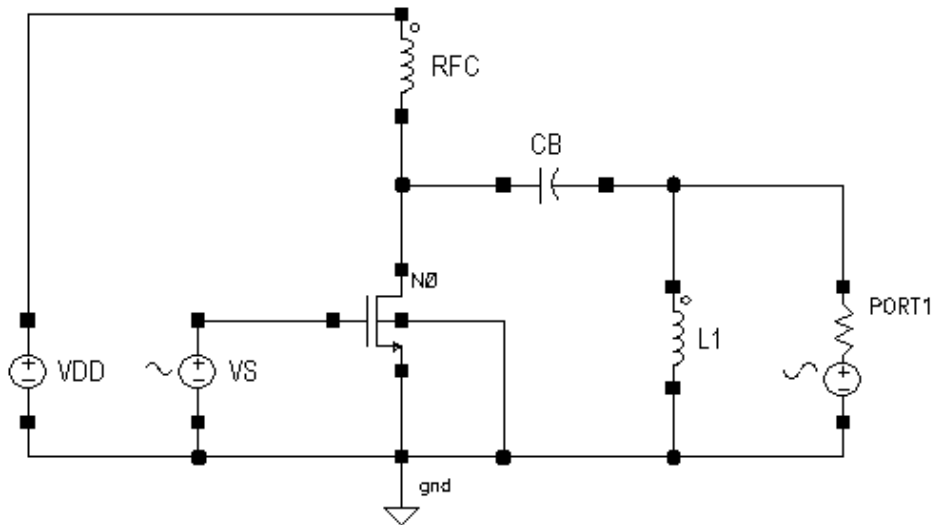

Figure 1. PA circuit schematic
Using a library for CMOS 0.5um technology in cadence, create the schematic shown in figure 1. This is a single-stage CMOS PA designed to operate around 1.9GHz. The component values are given in Table 1. RFC is a biasing inductor (RF “Choke”), which should present large impedance at the frequency of operation. CB is a bypass capacitor employed to provide DC isolation between the active device (N0) and the load (50ohm, Port 1). Inductor L1 forms a band-pass filter with the parasitics of N0 to filter out undesired harmonics. When VDC is set to 900mV this PA operates in class A mode and is able to deliver a power of 10dBm with a drain efficiency of around 50%.
- 1.2 The PA in Figure 1 does not have an input matching network. Under which circumstances would an input match be required? What would be a reasonable way to couple an on-chip preamplifier?